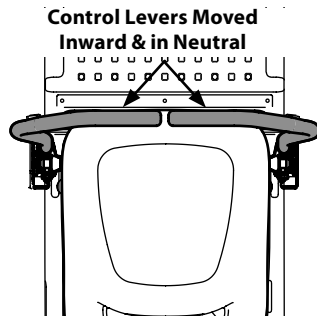

Figure 21
6. Set the lapbar driving control levers fully inward and in the neutral position. Disengage the parking brake when ready to move the tractor (Figure 21).
2. Move the RH and LH lapbar drive control levers inward to the neutral position (Figure 21) and disengage the parking brake.